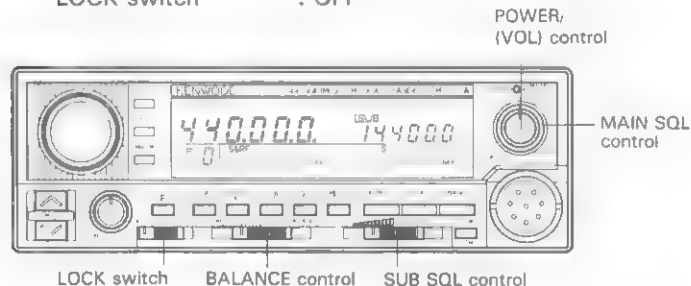

Fig. 1
2. Turn ON the DC power supply and then turn the transceiver's power switch ON. The display panel will indicate as shown in Fig. 1. Additionally some control and key lights will turn on.
If the display is not as shown Fig. 1 reset the microprocessor using the procedure give in Microprocessor memory Initialization Page 22.